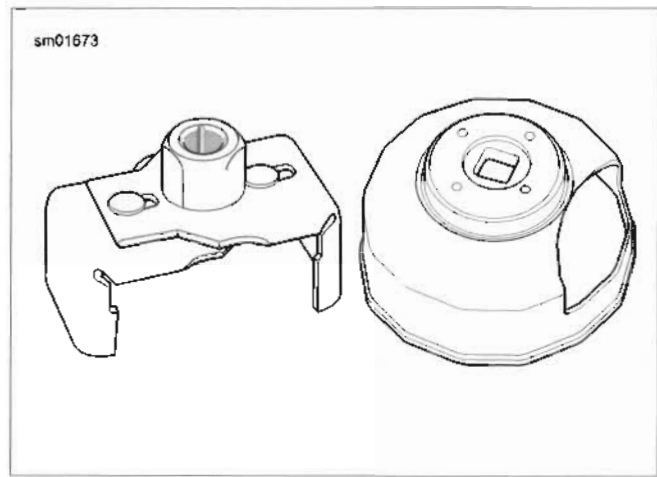

Figure 1-4. Oil Filter Wrenches
4. See Figure 1-4. Remove the oil filter using the OIL FILTER WRENCH (Part No. HD-42311) or OIL FILTER WRENCH (Part No. HD-44067). Clean the oil filter mounting surface of any old gasket material.